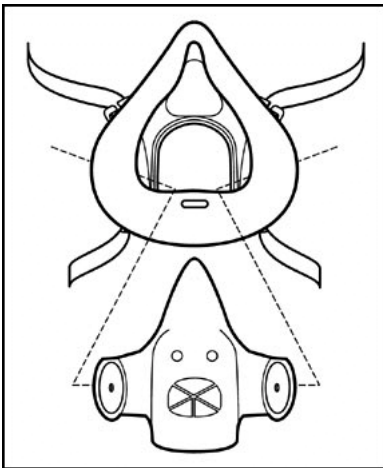

Fig. 21
2. Pull facepiece from 3M™ 7581 Cartridge/Filter Holder. (Fig. 21)